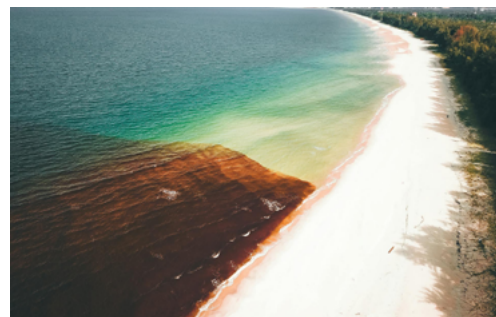

Figure 3: A Coastal algal bloom⁴.
Industrial discharges, agricultural runoff, and urban development can lead to habitat degradation through sedimentation, nutrient enrichment, acidification, and chemical pollution. Contaminants like heavy metals, pesticides, and industrial chemicals have toxic effects on aquatic life, leading to deformities, reproductive issues, and population decline in fish, amphibians, and invertebrates. Excessive nutrient pollution, particularly from agricultural runoff and sewage discharges, can lead to algal blooms (Figure 3). These blooms can deplete oxygen levels, creating “dead zones” where fish and other aquatic life struggle to survive. Some pollutants can accumulate in the food chain, a phenomenon called bio-accumulation. Predators at the top of the food chain, including humans, can consume prey with concentrated toxins, leading to health issues and disruptions in ecosystems.
4. Figure 3 <https://www.pexels.com/photo/coastline-with-algal-bloom-water-5006877/>